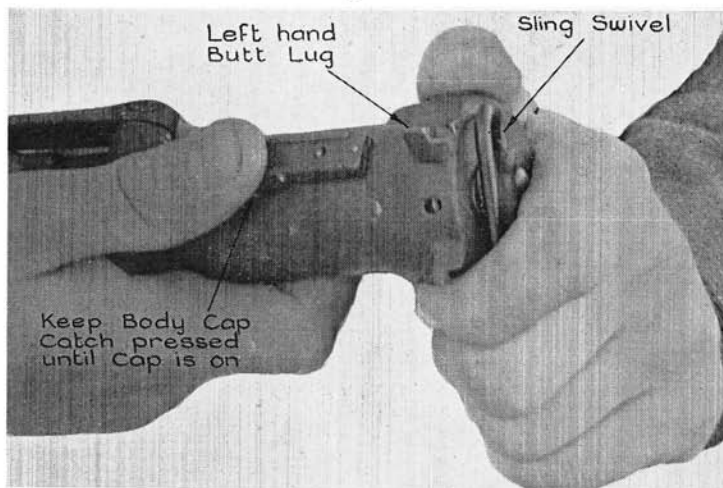

Fig 8.—Putting on the body cap
- (f) Put the body cap on the end of the return spring, with the left hand lug in line with the body cap catch. Press the catch: push the cap right on, turn it to the right (clockwise) to lock it, and let go the catch (see Fig 8).